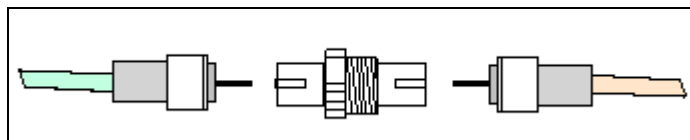

Figure 10: Connecting TX and RX Fibers with Fiber Splice
4. Connect the ends into the fiber splice (Daktronics part# P-1197), as shown in **Figure 10**.